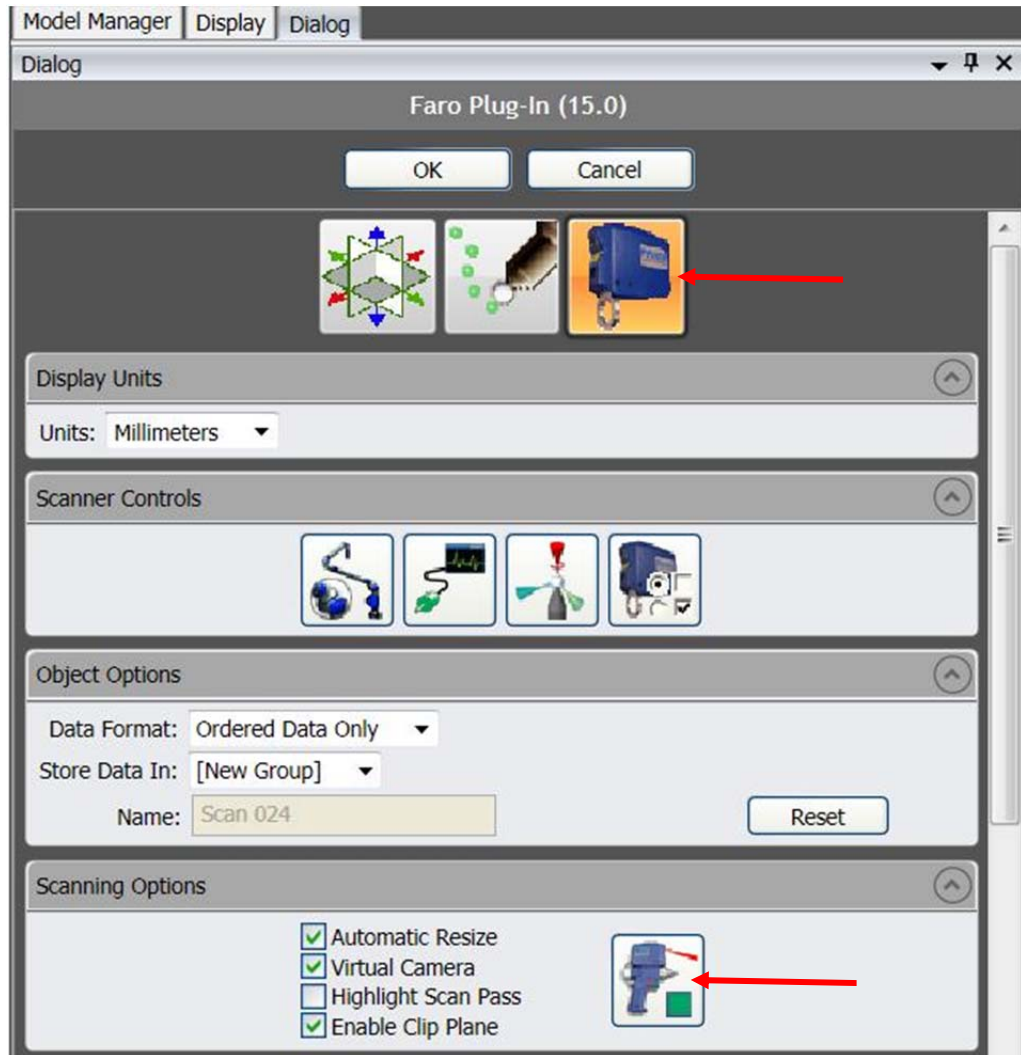

Figure B-10. Laser Probe Dialog Window for Point Capture
15. Begin to gather the point cloud for the “as-is” surface model using the laser probe capture option under the Hardware tab in GeoMagic (Figure B-10).